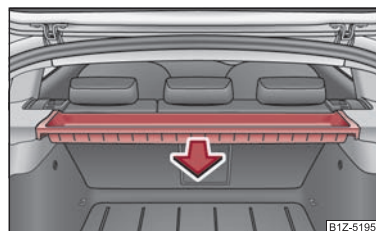

Fig. 103 Removing the stowage compartment
- Grasp the housing with both hands and remove it by pulling in direction of arrow ⇒ fig. 103.